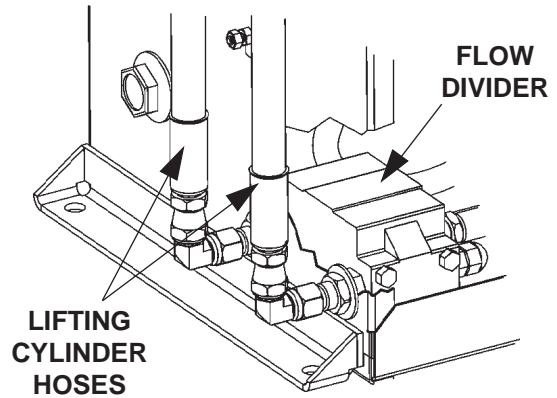

FIG. 52-1
1. Reverse the two 3/8" high pressure hose connections on output side of flow divider as shown in **FIG. 52-1**. Raise the platform. If the uneven platform position is the opposite of original symptom, replace flow divider.